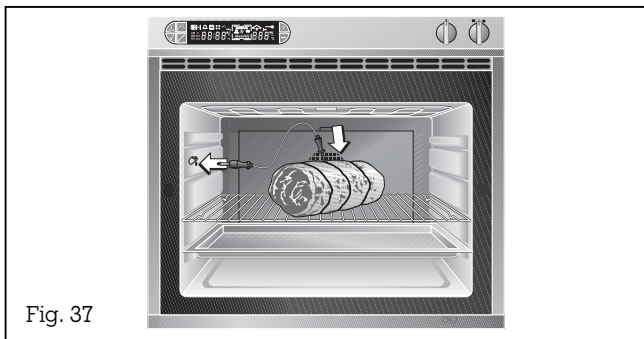

Fig. 37
- Insert the core temperature sensor in the front left socket in the oven (Fig. 37).